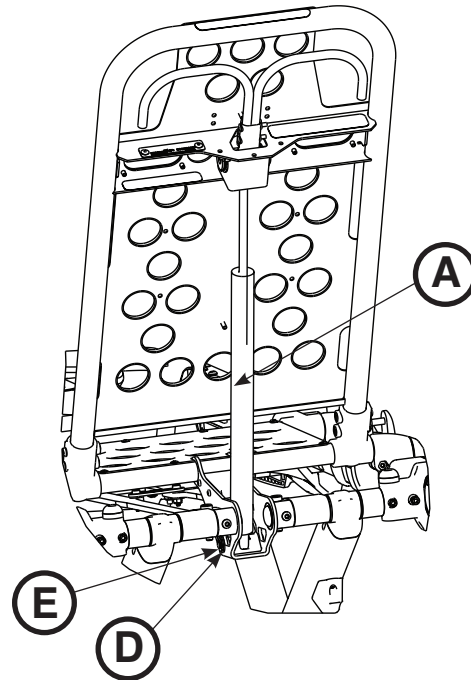
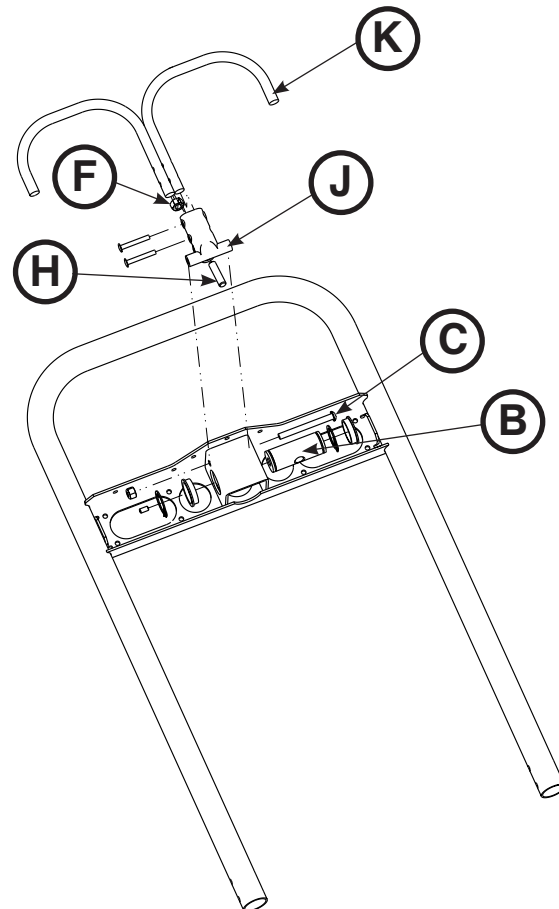

Figure 97
Figure 98
Note: Before continuing with the backrest adjustment procedure, be sure that the cylinder (A) is completely threaded into the yoke (B) so no threads are showing on the shaft of the cylinder. If threads are showing, use a 3/32" hex wrench to remove the set screw (C) in the center of the yoke. Using a small slotted screwdriver, remove the E-clip and pin (D & E) that holds the bottom of the pneumatic cylinder. Thread the cylinder shaft (A) completely into the yoke (B). Replace the E-clip and pin (D & E) and replace the set screw (C) using Loctite®. (Figure 97 and Figure 98)
2. Using a 1/2" combination wrench, loosen the hex nut (F) on the backrest pivot (J) while holding the set screw (H) fixed in the pivot Figure 98).
3. Using a 5/32" hex wrench, turn the set screw (H) until there is no play between the backrest release handle (K) and the pneumatic cylinder release button (Figure 98).
5. Using the 1/2" combination wrench, tighten the hex nut (F) while holding the set screw fixed in the pivot (Figure 98).